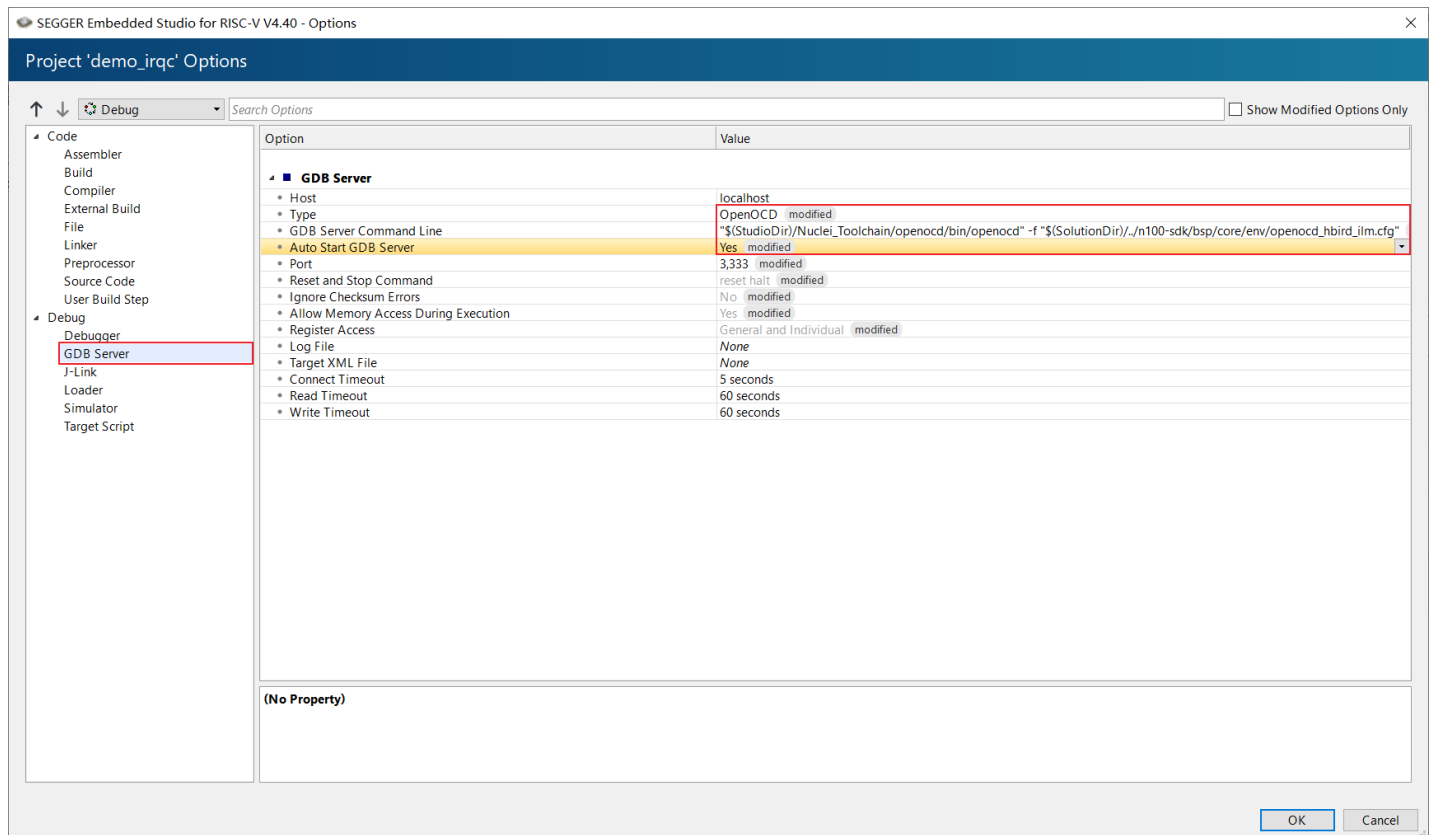

Figure 4-4 Use Openocd to Connect
- As shown in Figure 4-4, There are three settings under the “GDB Server” option should be changed: